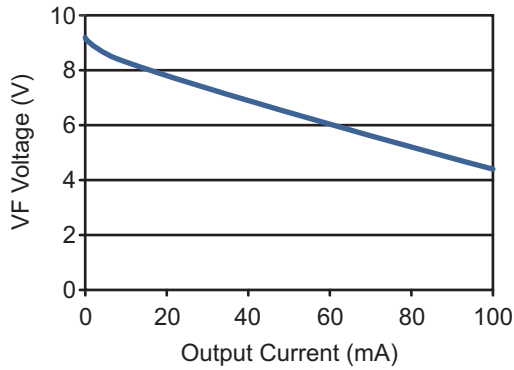

Figure 9. Typ. VF output vs. output current ($V_{DD1A} = 3.3\text{ V}$; $25\text{ }^{\circ}\text{C}$).
- Added start-up current specification (p. 6) and typical graph (Figure 9).